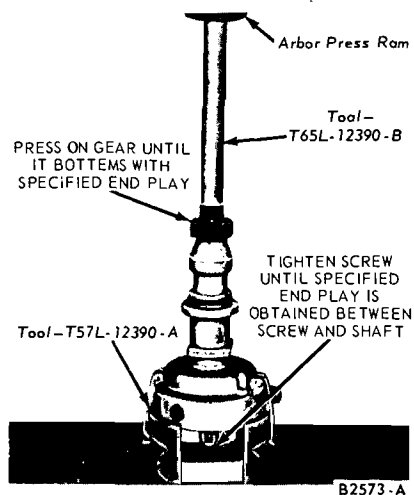

FIG. 17—New Shaft and Gear Installation
2. Attach the distributor shaft supporting tool to the distributor and install the assembly in a vise. Insert a 0.003 inch feeler gauge between the backing screw and the shaft. Tighten the backing screw on the tool enough to remove all shaft end play. Remove the feeler gauge and allow the shaft to rest on the backing screw. Place the gear thrust washer in position. Press the gear on the shaft until it bottoms on the gear thrust washer (Fig. 17). Drill a 1/8 inch hole through the gear using the access opening in the gear as a pilot.